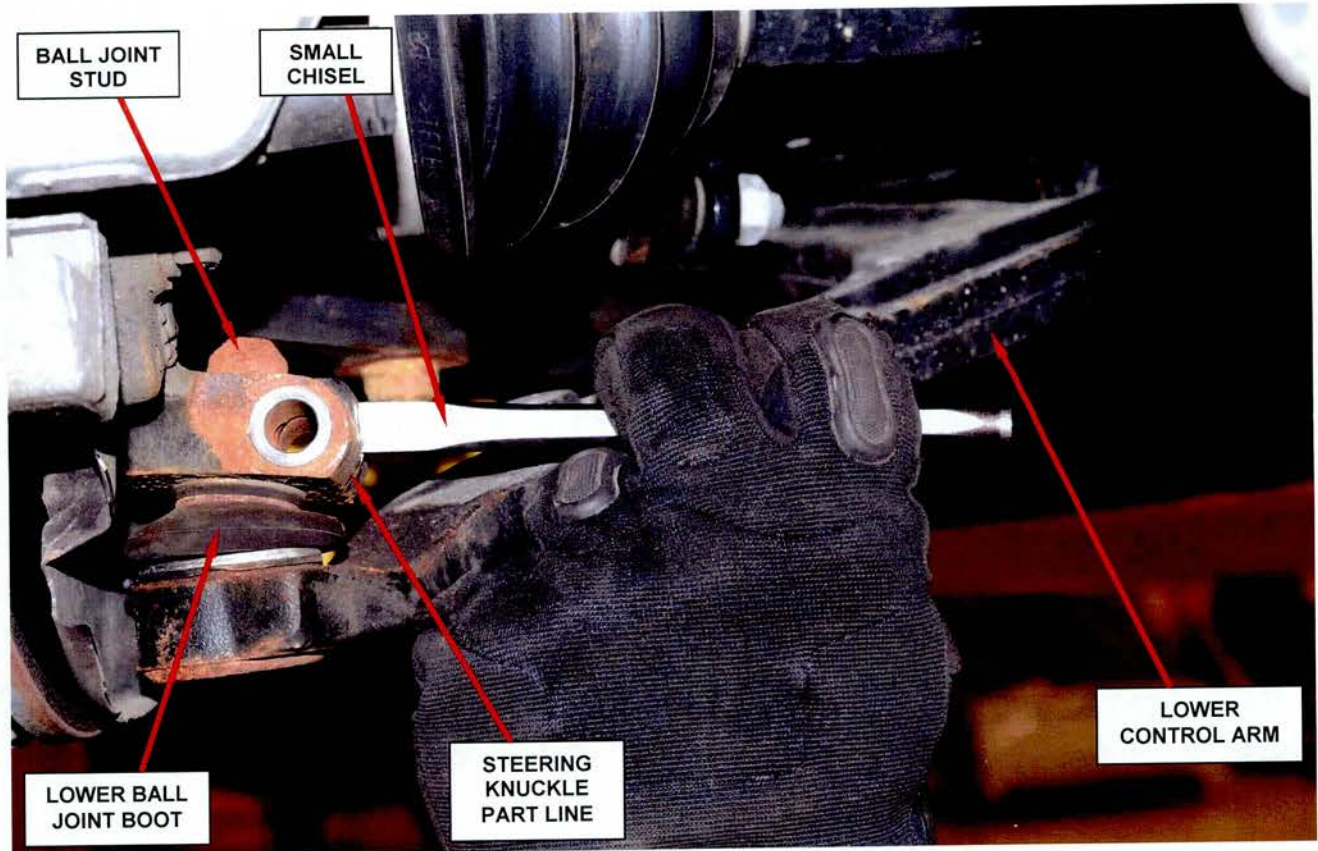

Figure 6 – Slightly Spread the Steering Knuckle to Release the Ball Joint Stud
5. Using a small chisel and hammer, slightly spread the steering knuckle at the parting line (Figure 6).
6. Carefully pull the ball joint stud out of the steering knuckle (Figure 6).